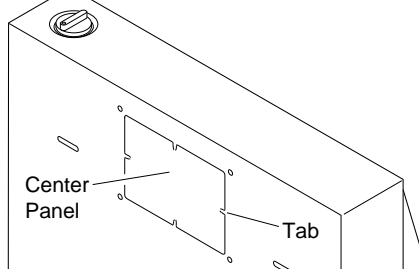

Figure 2 - Center Panel
1. Knock out center panel at four tabs with screwdriver (see Figure 2).